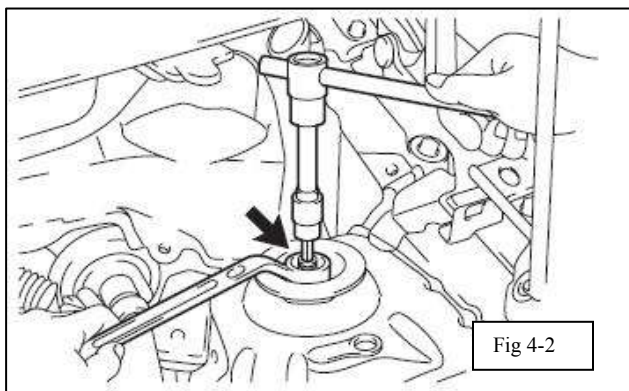

Fig 4-2
- (f) Now go back to the upper strut mounting nut and tighten it. (Fig. 4-2)